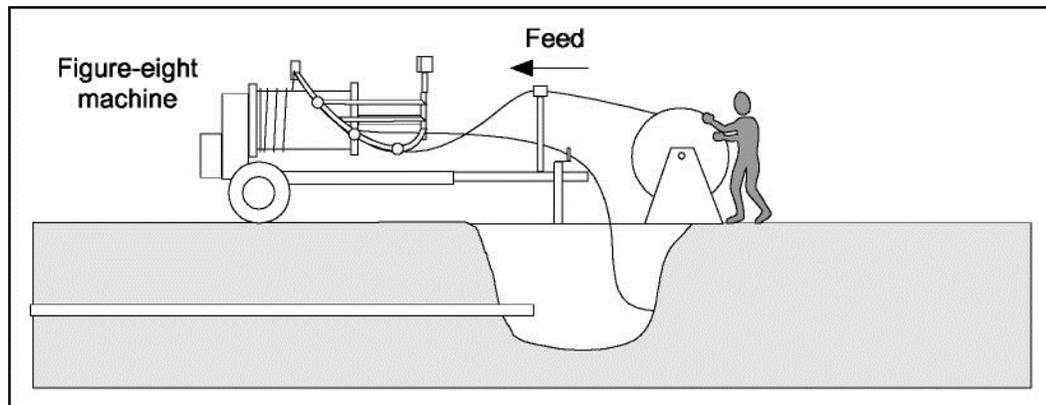

Figure 5 - Using A Figure-eight Machine
**6.16** An alternative to manually figure-eighting the cable off the reel before continuing the pull, is to use a figure-eight machine shown in Figure 5 below. Instead of pulling the cable from the reel and laying it on the ground, the cable is looped over the barrel of the figure-eight machine. Guided by a revolving arm and a series of rollers, the cable can be rapidly removed from the reel as it is wound around the machine's drum.